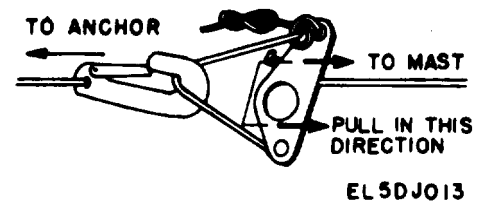

Figure 2-8. Pulling guy rope taut.
- (2) Pull snubber along guy in direction towards mast (fig. 2-8).